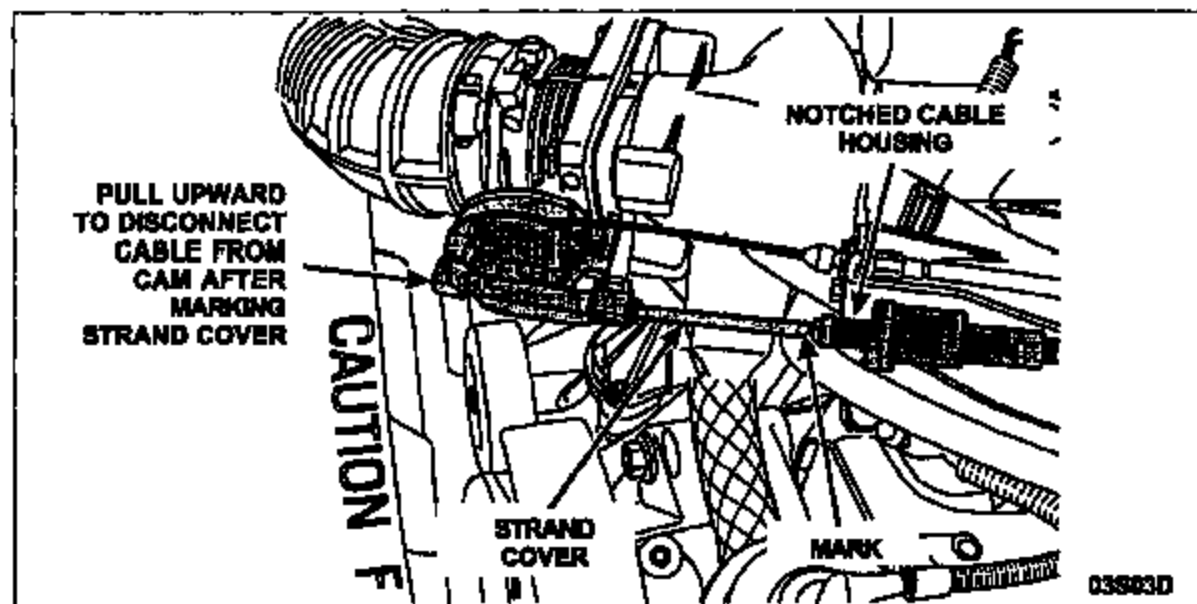

FIGURE 4
Clean the cable if necessary, then using a suitable marking device, mark the strand cover at the point where the cover enters the notched cable housing. See Figure 4.
5. Disconnect the speed control cable connector from the throttle body cam by pulling the connector upward. See Figure 4.